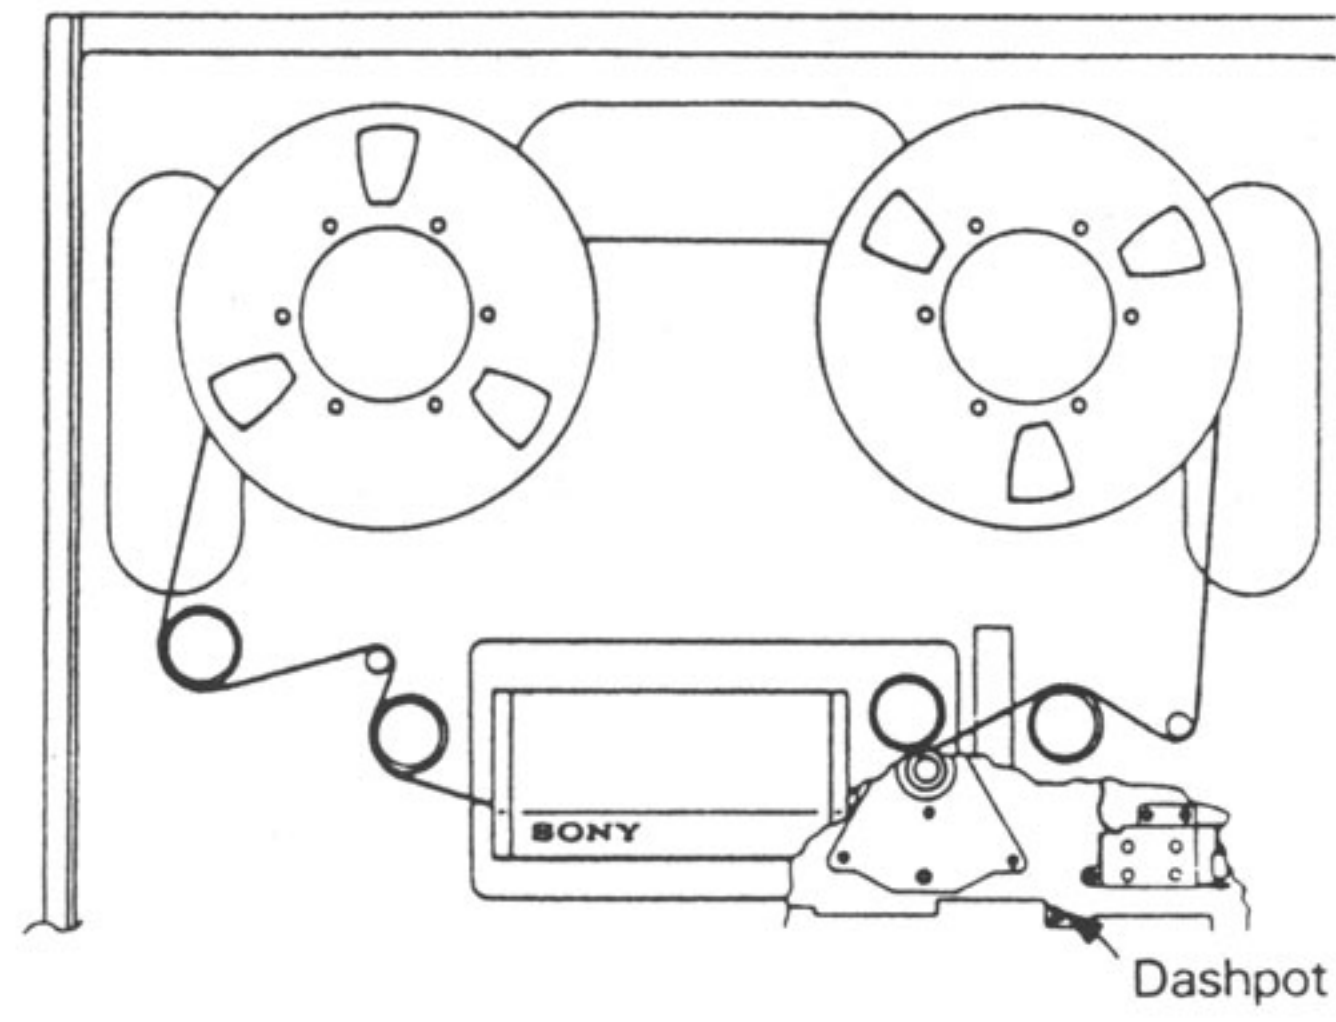

Figure 6-17. Shield Dashpot
- STEP 3.** If it is apparent that the shield operation is not sufficiently smooth, adjust the shield dashpot adjustment screw as shown in Figure 6-17 while repeating STEP 2.